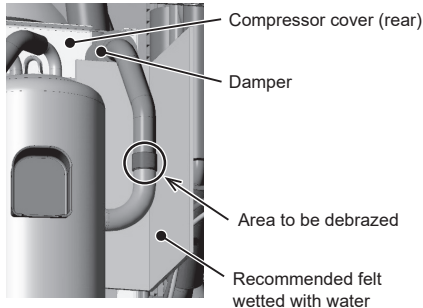

Figure 7
- (7) Remove the braze from the suction pipe of the compressor. (Debrazing: 1 place, Figure 7)